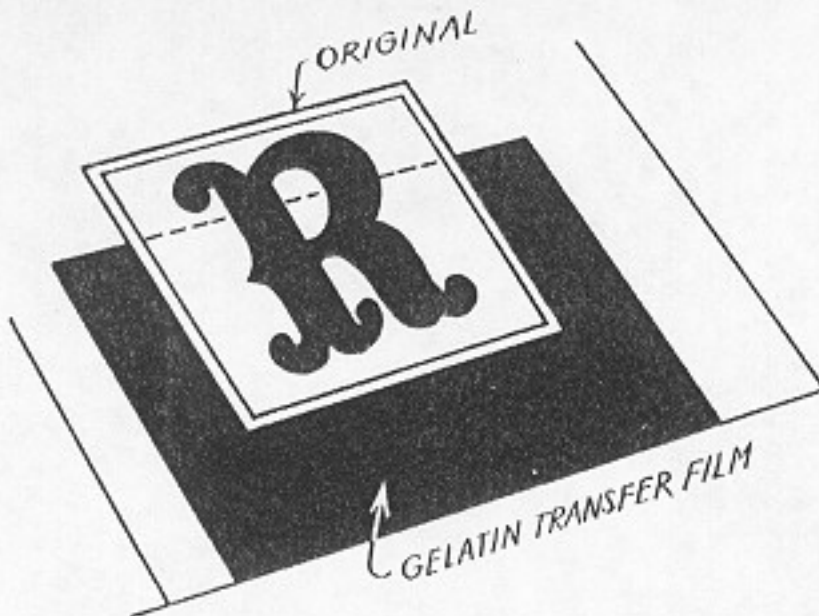

Fig. 135. Determine the Size of Film Required
3. Cut a piece of gelatin film. It should be larger than the original copy; about three inches on each side is good margin, Fig. 135.